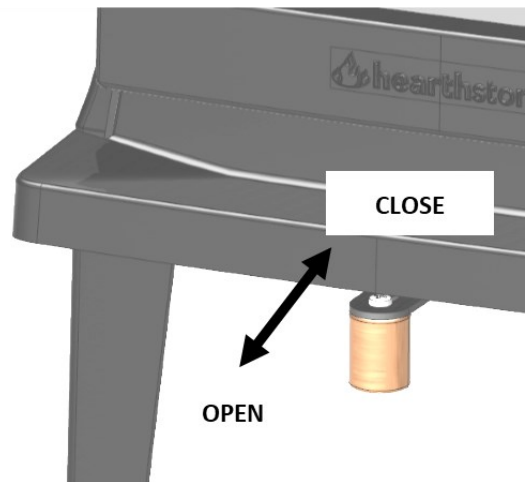

FIG. 5
The intermediate position is usually the ideal adjustment, depending on the quality of the draw of the chimney installed and on the type of fuel being used (hard or soft wood) (Fig. 5).
1. Fully open the appliance's air control valve (Fig. 5).